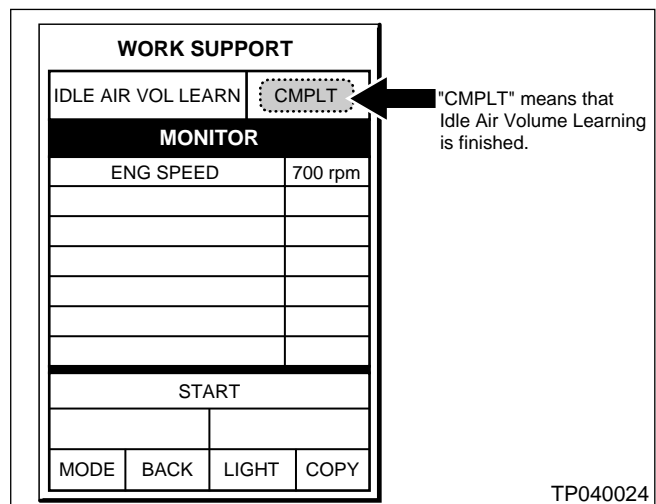

Figure 7
- CONSULT will display “CMPLT” in the top right corner of the screen when the IAVL procedure is finished. See Figure 7.